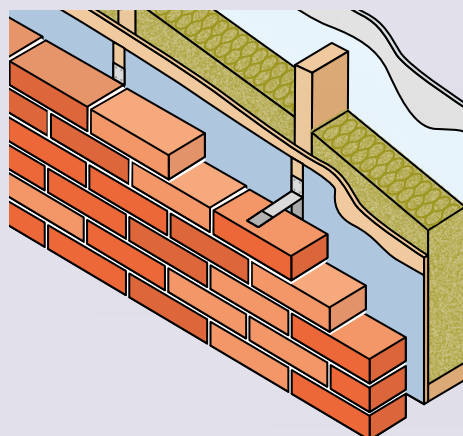

Figure 2
- Warm Frame - the insulation is fitted externally to the framing, as a sheathing, to give a continuously insulated envelope. This form of construction has the advantages of preventing thermal bridging and being inherently safe from harmful condensation (Figure 2).